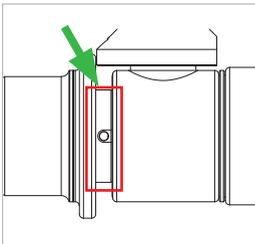

Figure 8
- ▶ Turn the actuation lever (Pos. 3) 90° from OFF to ON. Spray once onto the marked area (*Figure 8*).